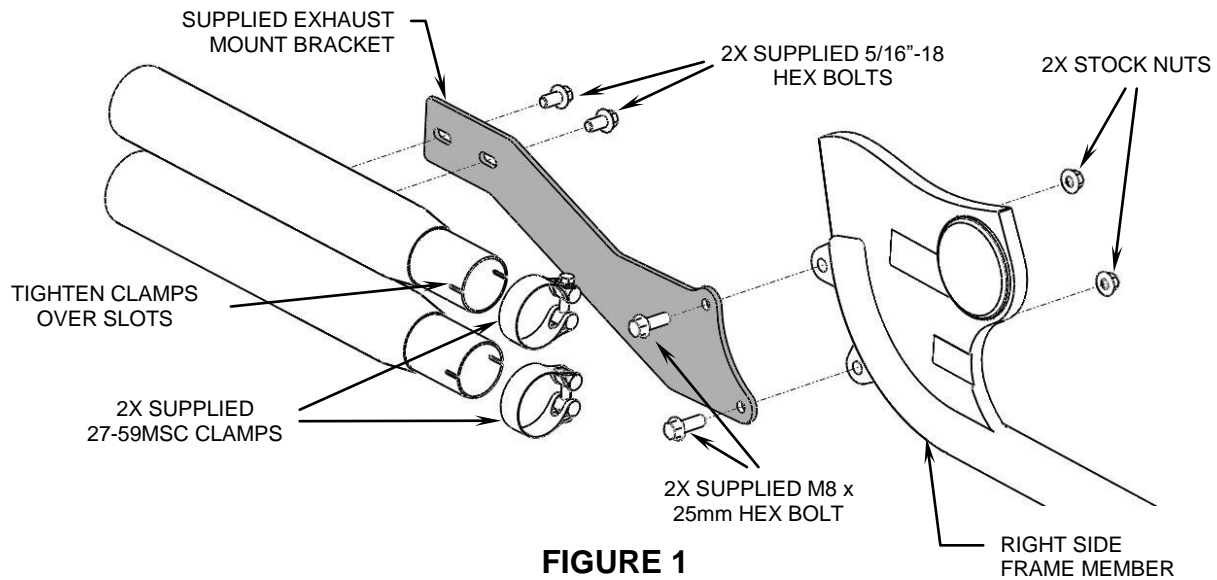
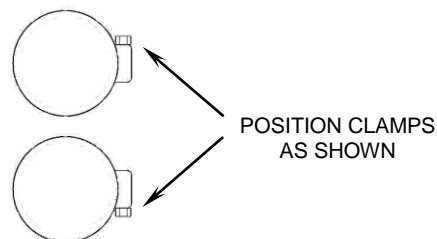

FIGURE 1
FIGURE 2
1. Remove the stock exhaust system and muffler mount. Save the (2) M8 nuts that secure the exhaust mount.
3. Mount the supplied exhaust mount bracket to the motorcycle frame using the (2) supplied M8 bolts and stock M8 nuts but **DO NOT TIGHTEN** at this time. See Figure 1.
5. Slide one supplied 27-59MSC clamp onto each muffler inlet and position as shown in Figure 1.
6. Slide the muffler assembly onto the headpipes by tapping the headpipes with your hand as you push the mufflers forward making sure the mufflers slide as far forward as possible. Secure the muffler assembly to the exhaust mount bracket using the supplied (2) 5/16"-18 bolts but **DO NOT TIGHTEN** at this time. **Note:** Position the bolts in the middle of the slots on the exhaust bracket.
8. Unscrew the hose clamps and feed the tail end of the clamp through the clips on the inside of the heatshields. The screw end of the hose clamp should be accessible for tightening but not visible when the heatshields are mounted to the pipes, as shown in Figure 2. Note: the smaller hose clamps go around the headpipes and the larger ones around the muffler bodies.